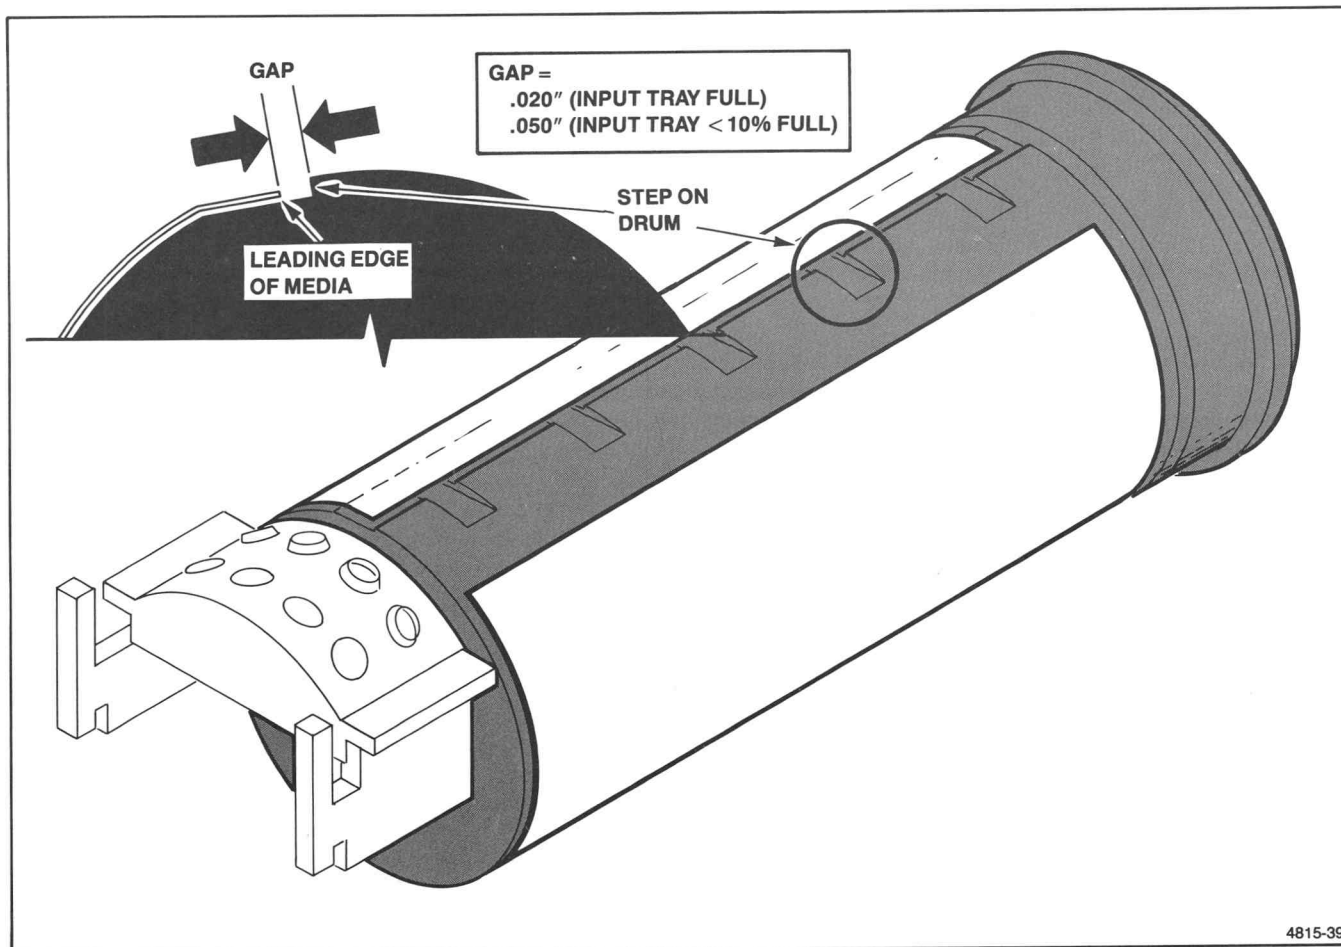

Figure 5-4. Checking Media Position on the Drum.
5. Rotate the drum by hand until you can check the position of the leading edge of the media. See Figure 5-4. The gap between the leading edge of the media and the step on the drum should be even and approximately .020". The gap slowly widens as the media input tray empties (the maximum gap — when the tray is almost empty — is .050").